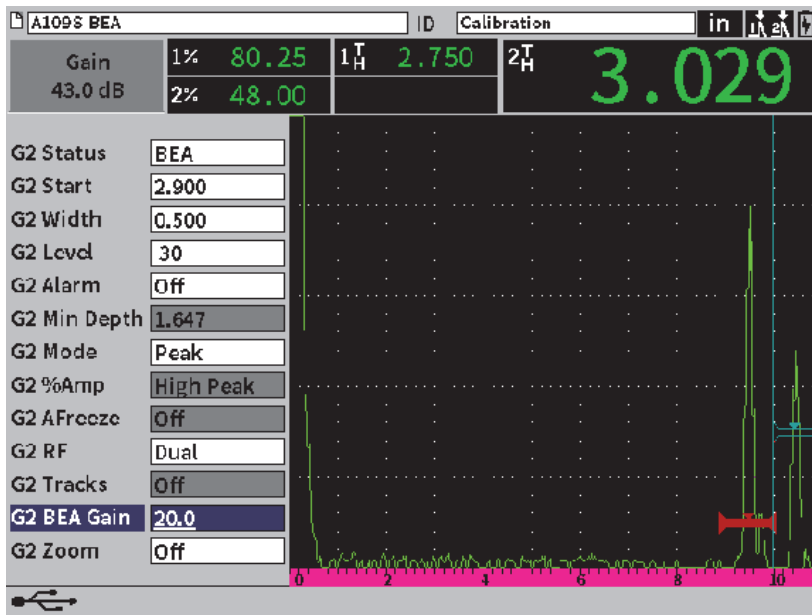

Figure 11-29 Adjusting back wall gain
1. In the gate 2 dialog box, press the Tab key to select **G2 BEA Gain** (see Figure 11-29 on page 189).